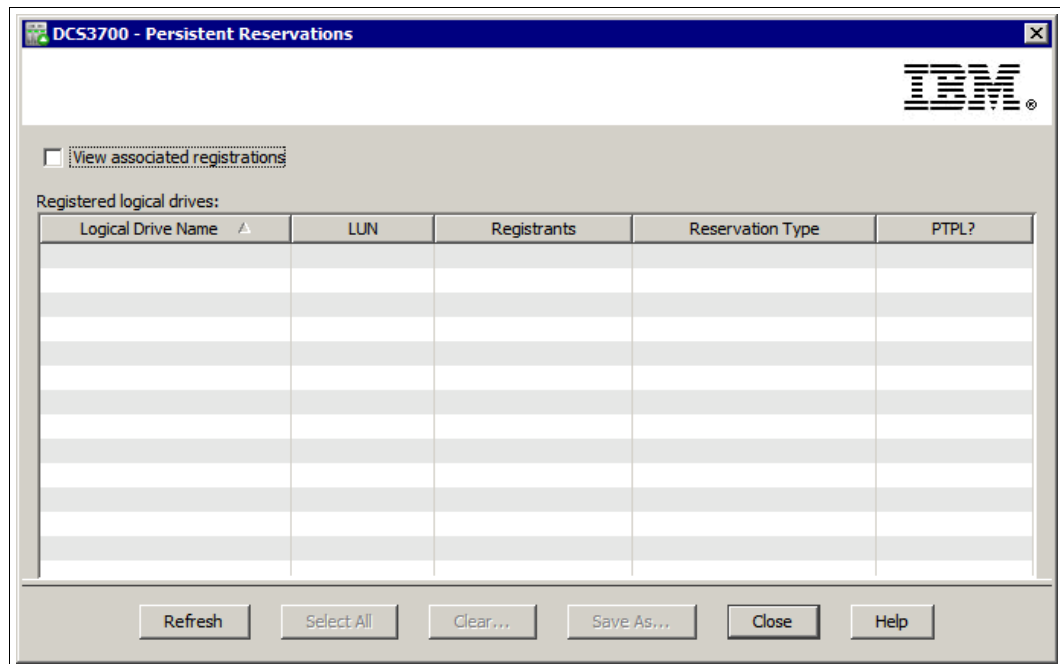

Figure 13-37 Persistent Reservations
1. Click **Monitor** → **Reports** → **Persistent Reservations** to open the Persistent Reservations window, as shown in Figure 13-37.